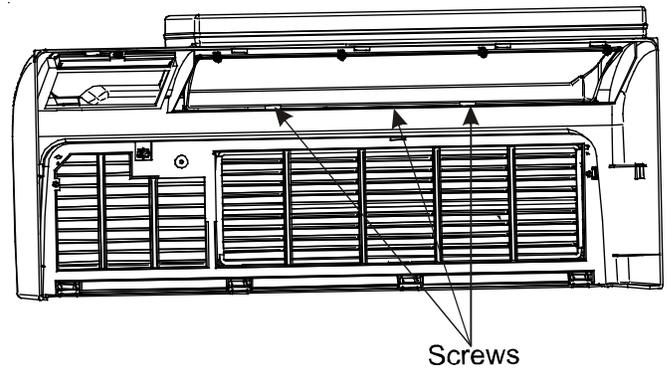

Figure 3
5. Using a 1/8" drill bit, pre-drill the holes in front (as shown in Figure 3) using the actual transition as a template. Fasten with three screws. **DO NOT OVERTIGHTEN.**
6. **AFTER** installing screws in Figure 3, using a 1/8" drill bit, pre-drill holes as shown in Figure 4. Fasten with the remaining 3 screws. **DO NOT OVERTIGHTEN.**